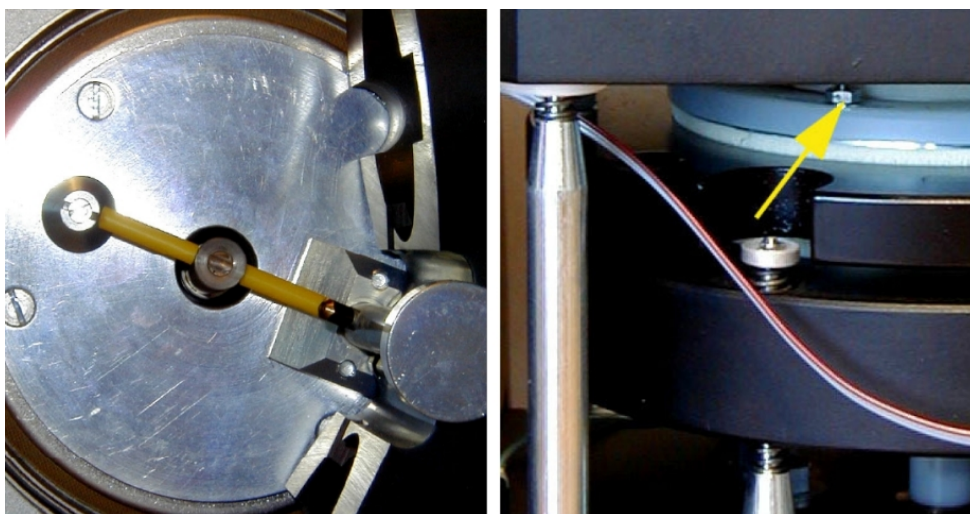

Figure 19: Setting of azimuthal position of holder
- Open *Auxiliary commands* window in the REMA6 software. Press the **FRONTAL** button. Check if the tool stopped in the axis of hexagonal key, as seen in Figure 19, left.
- If not, loosen three nuts located under the upper square plate, marked by yellow arrow in Figure 19, right. Then turn the rotational system around clockwise or anticlockwise to set the proper azimuthal position of the holder.